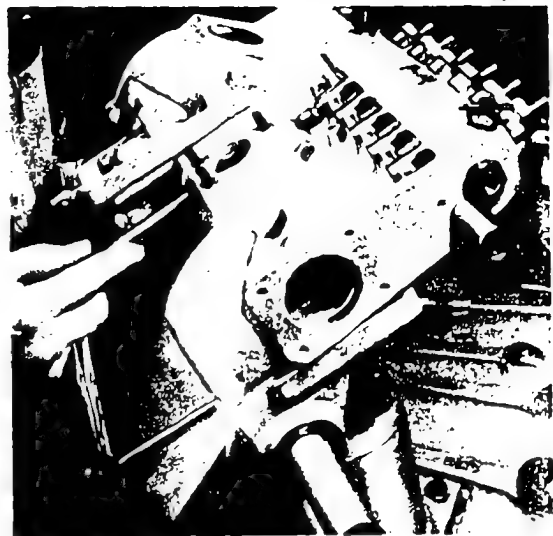

Fig. 50 Check plunger for smooth running
c) Tilt the pump, insert the plungers with plunger pliers EFEP 76 (size A) (Fig. 49), EFEP 77 (size B) and EF 8140 C (size Z) in the corresponding barrels and check for smooth running (Fig. 50). For new plunger design of the Z-type pump use plunger pliers EFEP 239.